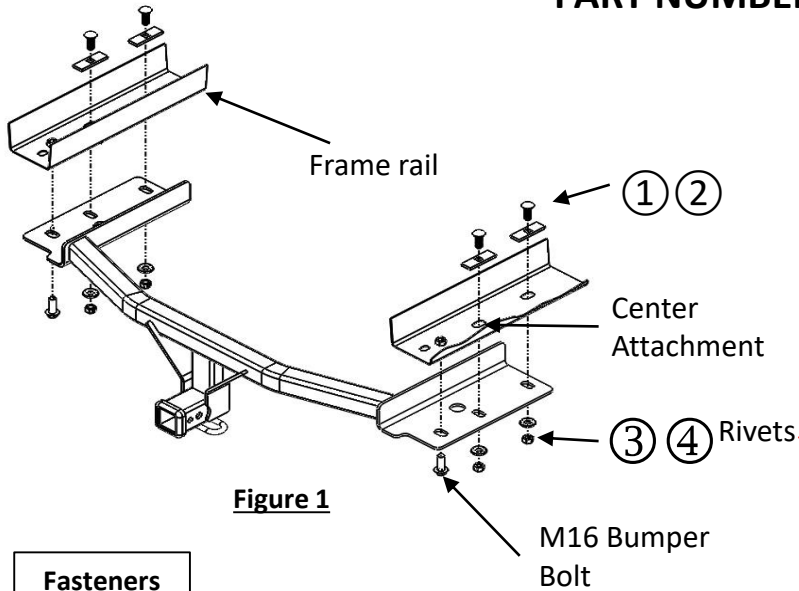
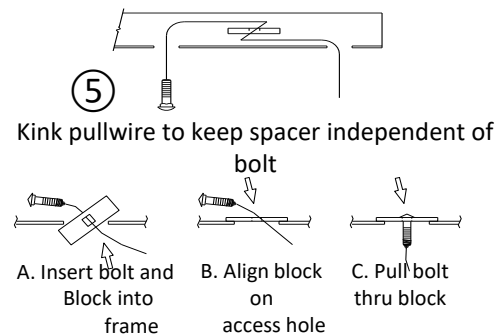

Figure 1
Figure 4
- Install hitch** – Using the supplied pullwires ⑤ install the carriage bolts ① and spacers ② into the vehicle frame through the center attachment, see **Fig. 4**, leave pullwires attached. Make sure weldnuts are free from rust and debris. Raise the hitch into position and align holes in hitch bracket to the frame rail weldnuts guiding the pullwire ends through holes in the hitch bracket and loosely reinstall the M16 bumper bolts removed in step 4. Remove pullwires, install conical washers ③ (teeth side toward hitch) and nuts ④, see **Figure 1**.
8. Install hitch – Using the supplied pullwires ⑤ install the carriage bolts ① and spacers ② into the vehicle frame through the center attachment, see **Fig. 4**, leave pullwires attached. Make sure weldnuts are free from rust and debris. Raise the hitch into position and align holes in hitch bracket to the frame rail weldnuts guiding the pullwire ends through holes in the hitch bracket and loosely reinstall the M16 bumper bolts removed in step 4. Remove pullwires, install conical washers ③ (teeth side toward hitch) and nuts ④, see **Figure 1**.